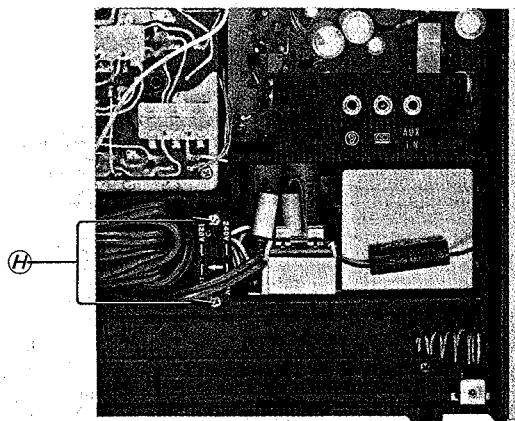

Fig. 2-11 Power circuit board removal, step 5
5. Remove the two screws labeled ④ in Fig. 2-11.